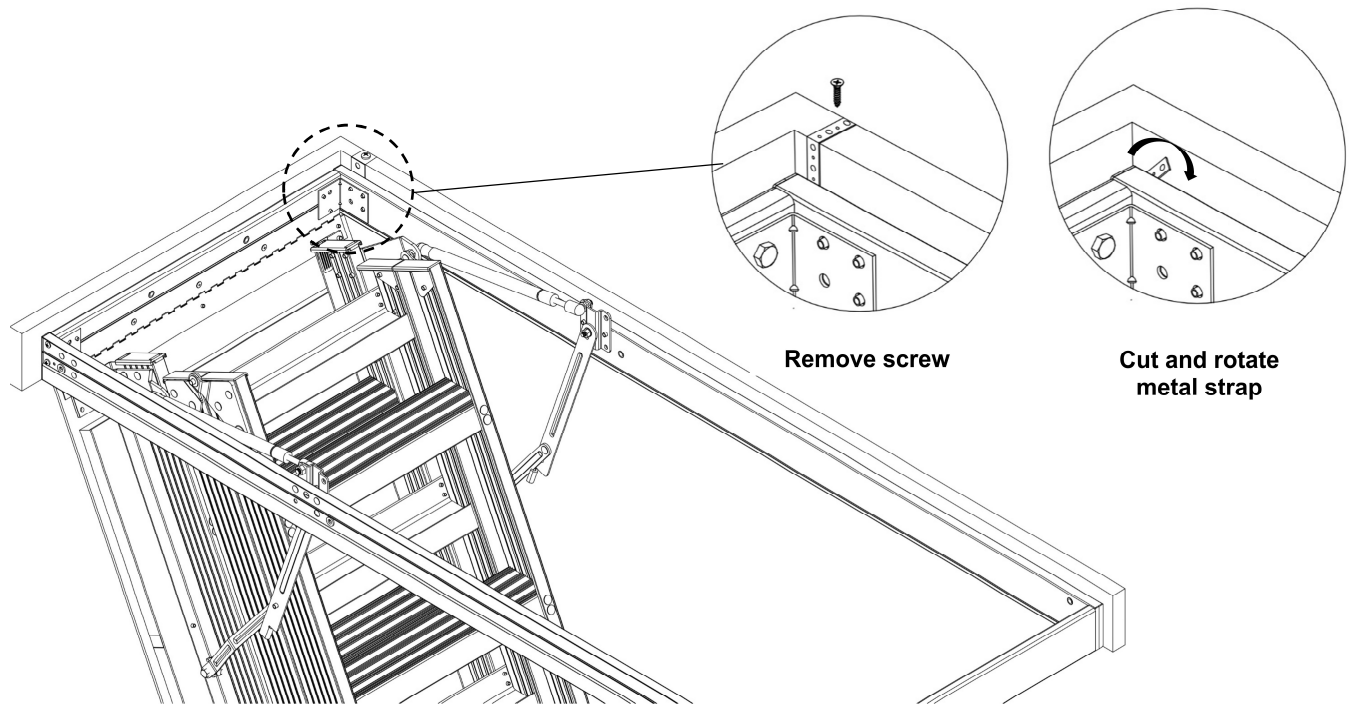

FIGURE 23 : REMOVING EXCESS METAL STRAP MATERIAL
T. Installer #2: With the aluminum attic ladder frame secured and the door open, remove the wood screws from the metal straps. Cut the metal straps as close as possible to the aluminum frame. Be careful of any sharp edges. Turn any excess strap material down between the aluminum frame and rough opening to eliminate a possible catch point. **See Figure 23.**